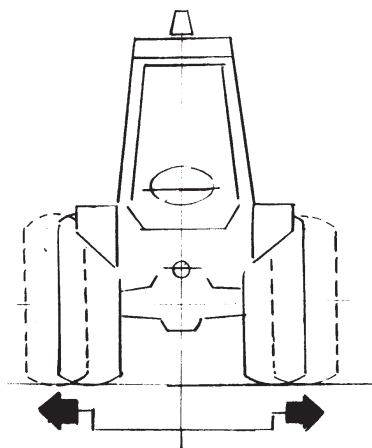

Fig. 19
- Adjust the wheels of the tractor to maximum track (FIG. 19).